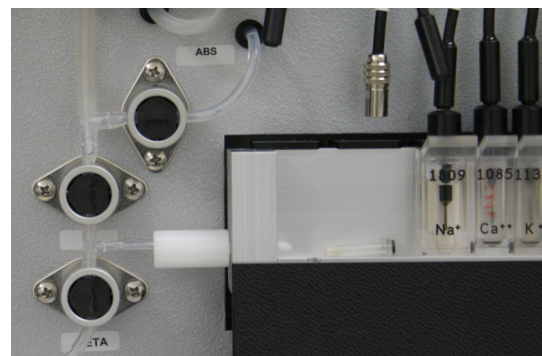

figure 3
- Push the capillary out of the light-barrier as shown in figure 3.